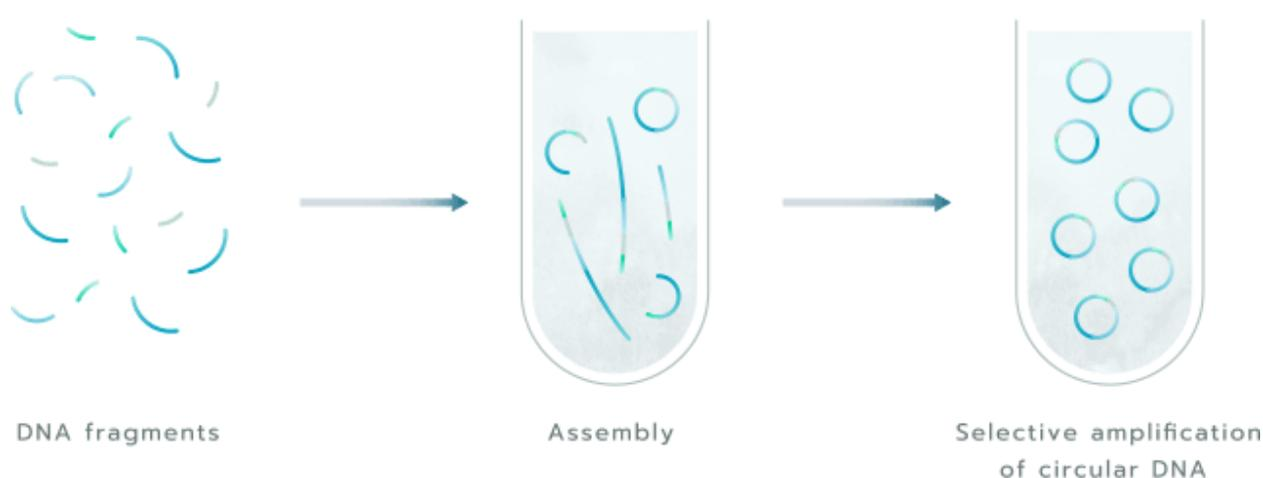

Figure 1. Assembly & Amplification to produce circular DNA
**OriCiro® Cell-Free Cloning System** is a rapid and powerful tool replacing cumbersome DNA cloning (plasmid construction) process relying on *E. coli*. The system consists of two kits. **OriCiro Assembly Kit** allows seamless assembly of multiple overlapping DNA fragments. The assembly product can be added directly to **OriCiro Amp Kit** to get selective amplification of your target circular DNA (Figure 1). The amplified product is supercoiled DNA topologically identical to plasmid DNA isolated from *E. coli*.